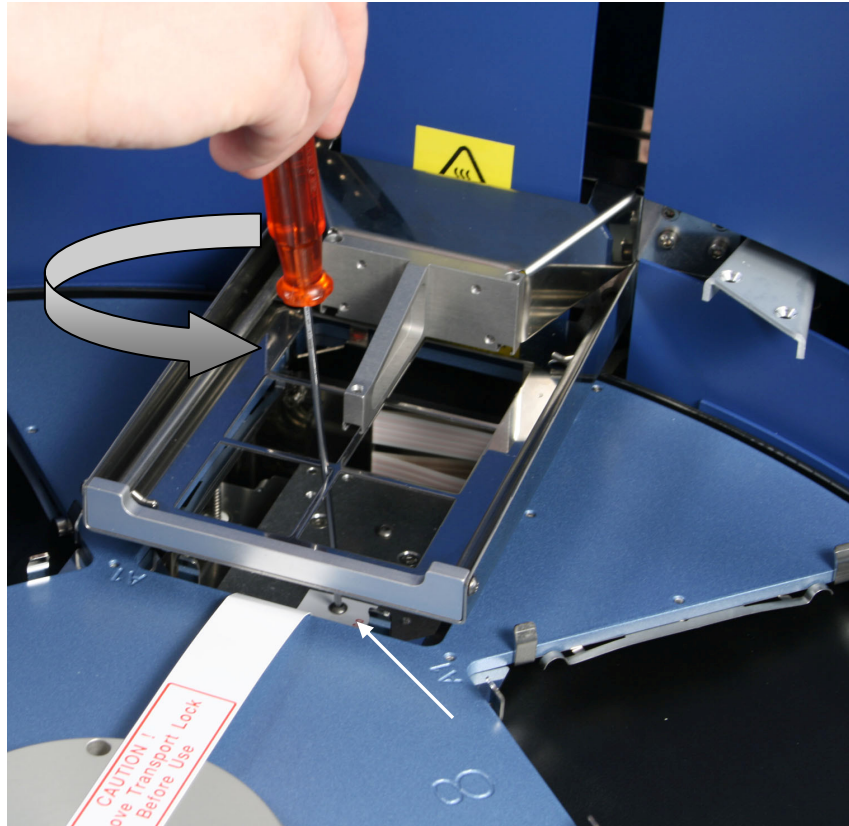

Fig. 5.5 Removing the transport lock of the heating block (A)
3. The transport lock of the heating block is removed according to Fig. 5.5. Unscrew the transport lock screw counterclockwise (Fig. 5.5). Lift the screw with the label attached (Fig. 5.6).